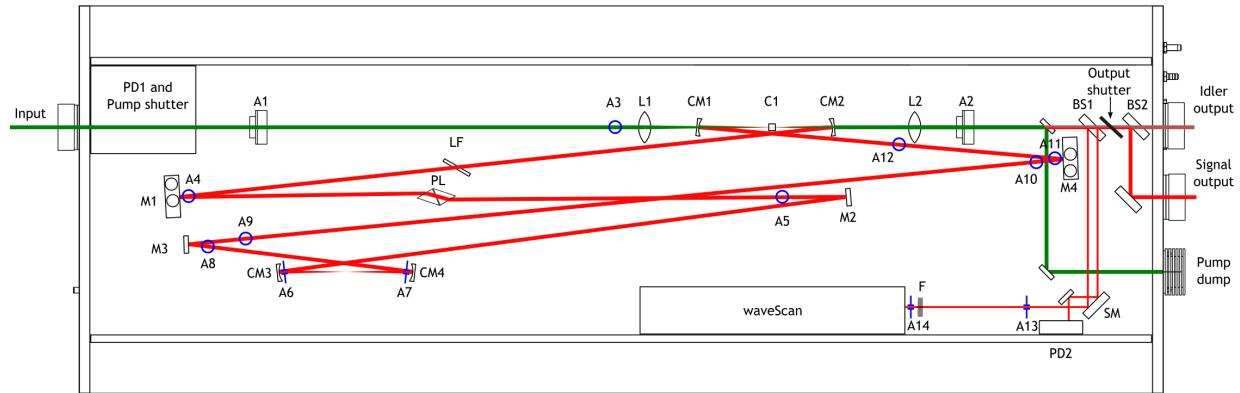
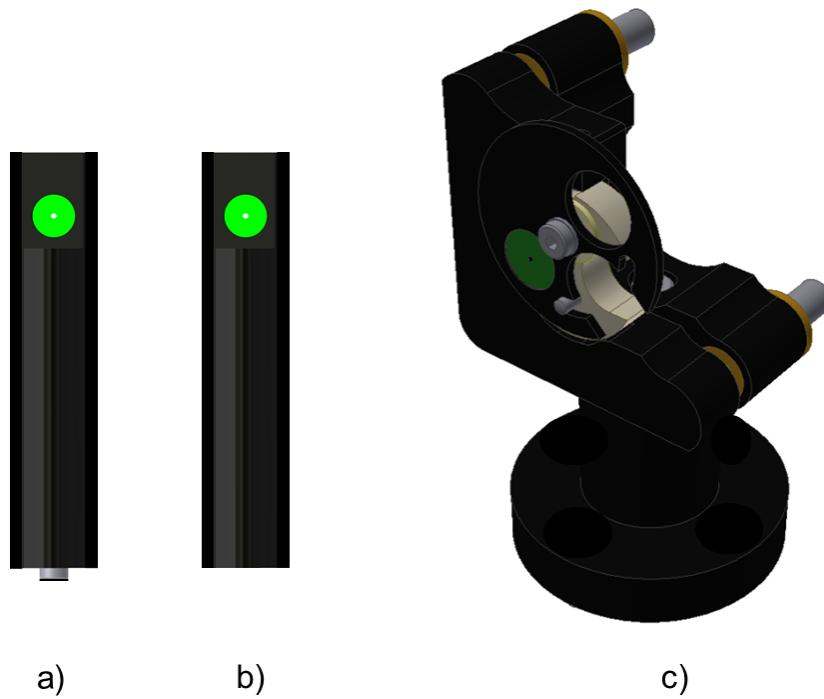

Figure 5.1.: Top view of the **Levante Emerald** OPO optical unit
Figure 5.2.: a) Pluggable aperture, b) freely positionable aperture used for alignment, c) flip apertures in front of CM3 and CM4.
A detailed top-view scheme of the Levante Emerald OPO cavity with installed signal / idler separation is depicted in figure 5.1. The path of the pump beam is marked as a green line. In front of the beam splitter BS1 the pump beam is separated from the co-propagating signal / idler beam and is guided out of the cavity housing on a beam dump. The resonant signal beam inside the OPO cavity is represented by a red line. The red marked signal beams reflecting off the beam splitter BS1 are for diagnostic means to measure the signal power with PD2 and the signal spectrum with the waveScan internal spectrometer. For the further description of the device installation and alignment steps the positions of the various alignment apertures are marked in blue colour. For a reproducible cavity alignment defined blind holes in the OPO ground plate (blue circles in figure 5.1) mark the position of the pluggable alignment aperture. This aperture and a second alignment aperture that is freely placeable is delivered as additional tools (see figure 5.2).
The following components are marked in Figure 5.1:
A4, A5, A8 ... A11	Positions for pluggable aperture for cavity alignment, see Fig. 5.2 a)
A12	Position for freely positionable aperture, see Fig. 5.2 b)
A6, A7	flip apertures at CM3 and CM4 mounts for cavity alignment, see Fig. 5.2 c)
- Use the freely positionable aperture (Fig. 5.2 b) and place it near position **A12** between M4 and CM1 so that the backward reflection from CM1 passes through.